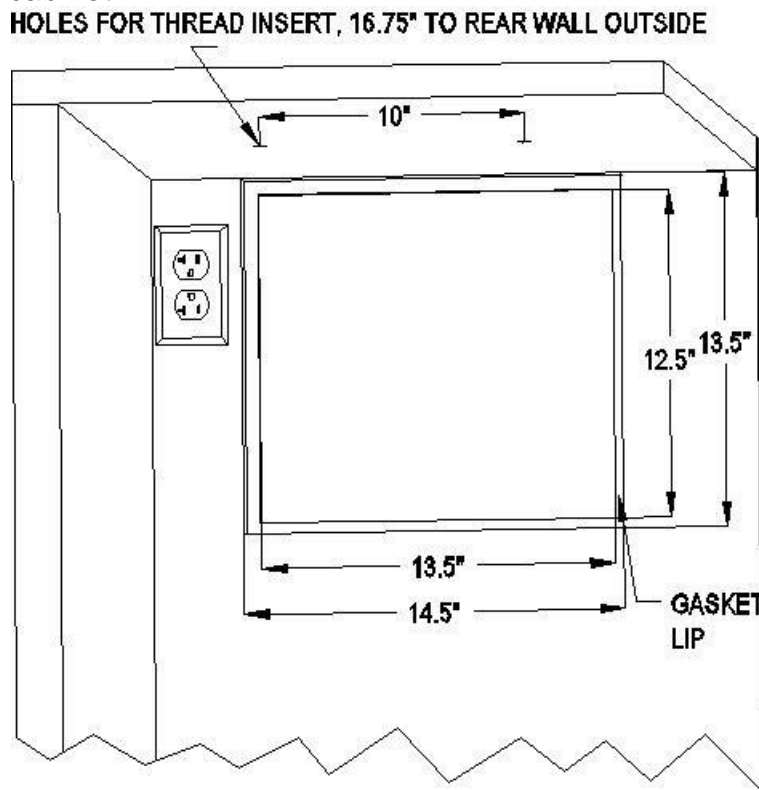

Fig. 2.1 CABINET CUTOUT & GASKET LIP
- Cut a rectangular inside opening with the 1/4" clearance inwards to the width and height of the cooling unit. By not going through, leave 1/2" lip inside at the wall to place the gaskets (see Fig 2.1).
- Install 2 pieces of 1/4" ID wood thread inserts at the ceiling (see Fig.2.1 & 2.2).